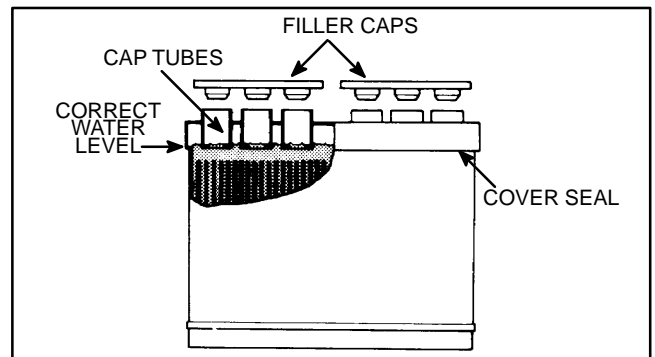

Figure 25
F. Apply a test load of one half the Cranking Performance rating (see Fig. 25) of the battery for 15 seconds.